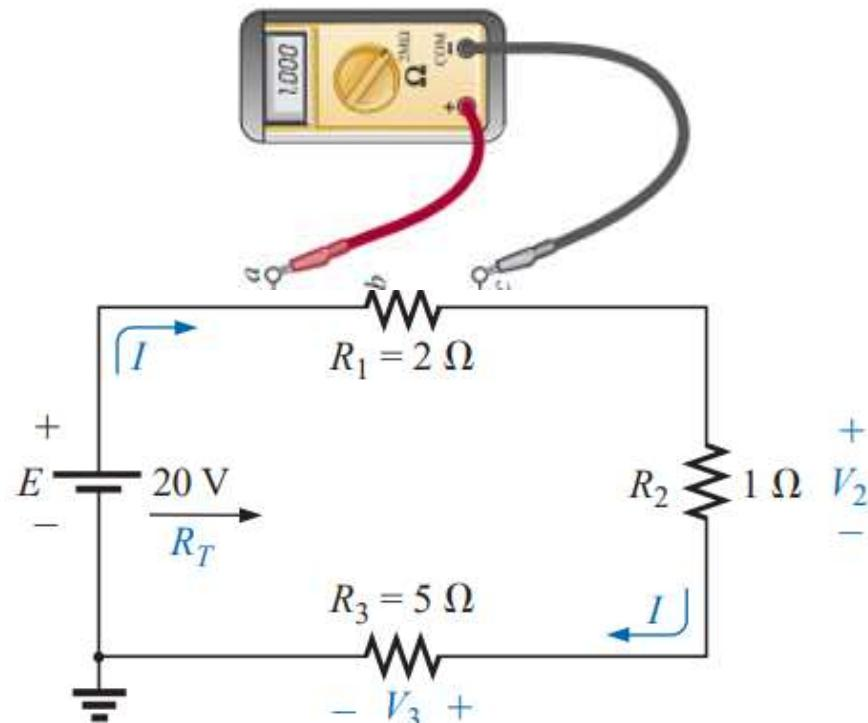

FIG. 5.7
- Find the total resistance for the series circuit of Fig. 5.7.